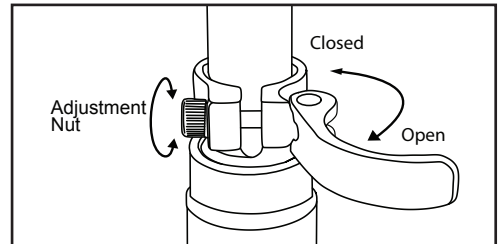

Fig. 9: Opening and adjusting a quick release.
1. Open the seatpost quick release (Figs. 9 & 10).
3. When you are satisfied with the height of the seatpost, close the seatpost quick release lever. The tightness of the lever is adjusted by rotating the adjustment nut opposite the quick release lever. Turn the nut by hand to adjust the tension while holding the lever stable (Fig. 9 page 21).